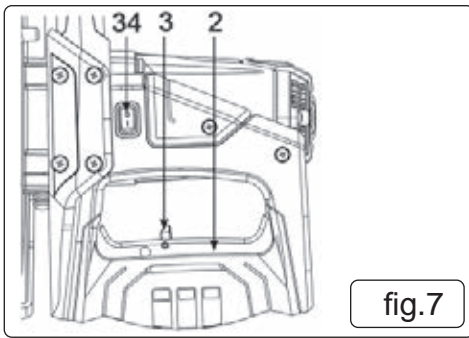

fig.7
- 6.1.1. To turn the saw on move the lock-off lever (fig 7 - 3) to the left, and depress and hold the on/off trigger switch (fig 7 - 2).
- 6.1.2. To turn the saw off, release the on/off trigger switch (fig 7 - 2).
- 6.10.2. When required switch on using the laser On/Off switch (fig 7 - 34).